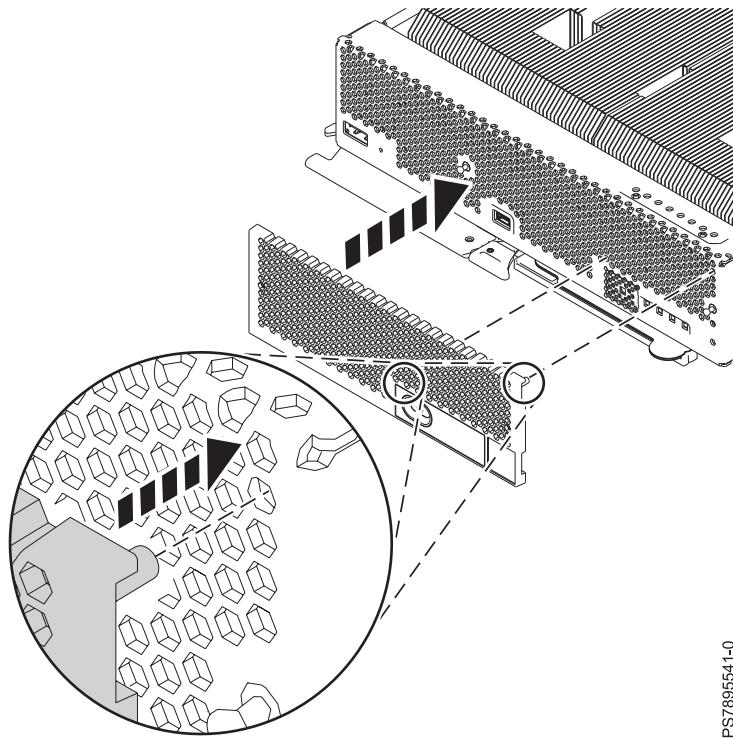
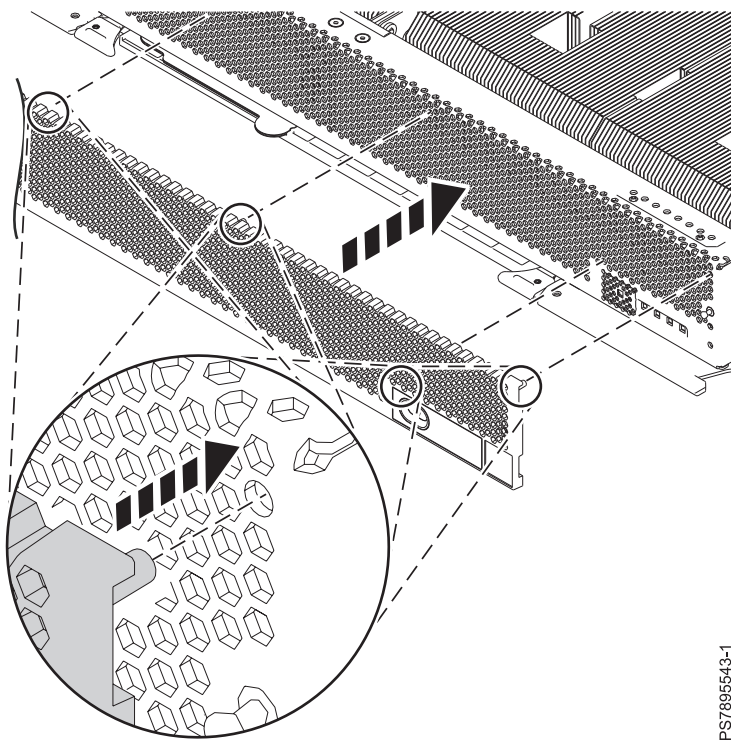

Figure 15. Installing the bezel assembly in an IBM Flex System p260 Compute Node
Figure 16. Installing the bezel assembly in an IBM Flex System p460 Compute Node
1. Align the bezel with the compute node according to the circled locations indicated in Figure 15 on page 45 and Figure 16.